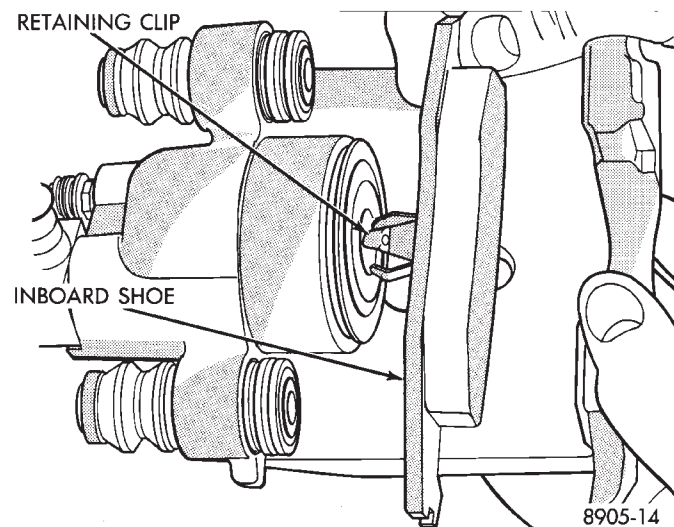

Fig. 6 Removing Inboard Shoe
(8) Pull inboard shoe away from piston, until the retaining clip is free from the cavity in the piston. (Fig. 6).